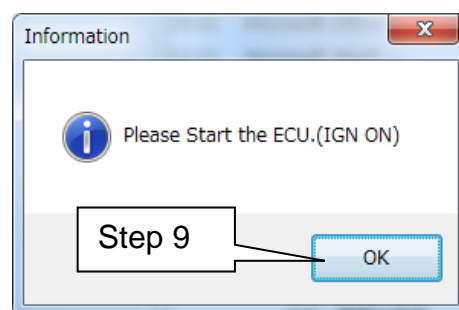

Figure 28
- After selecting OK in Figure 28, the OCS reprogramming will start.